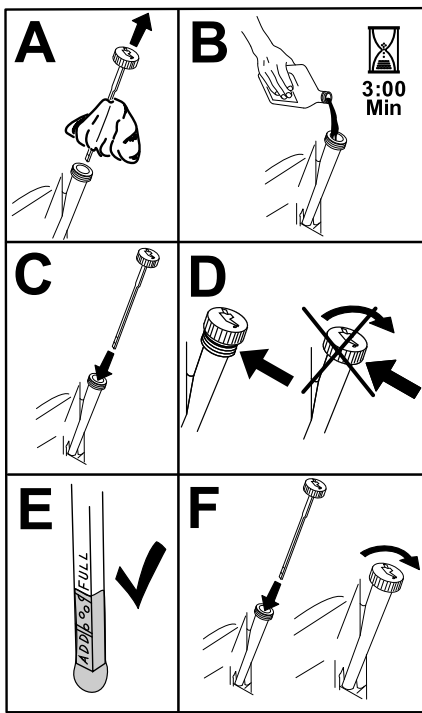

Figure 18
5. Slowly pour approximately 80% of the specified oil into the filler tube and slowly add the additional oil to bring it to the **Full** mark (Figure 18).
3. Fill the crankcase with the proper type of new oil (Figure 18).